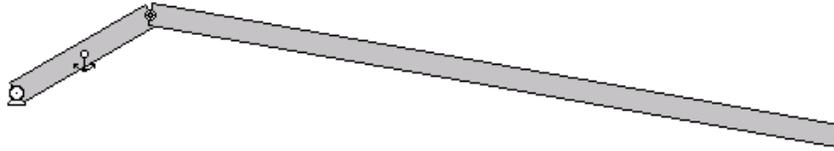

Figure 4
5. Place two point elements, each at B end of links AB and BD, and join the two links (see Figure 4).